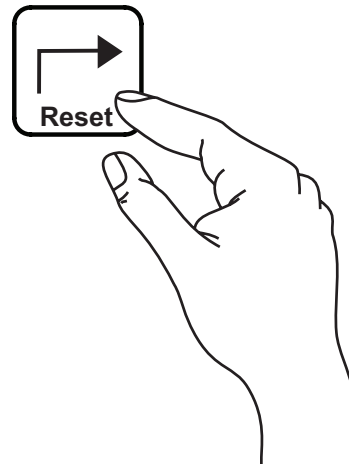

Figure 106. Reset Button
7. Diagnostic mode will remain active until the **Reset** button (Figure 106) is pressed or if the engine rpm becomes greater than zero.